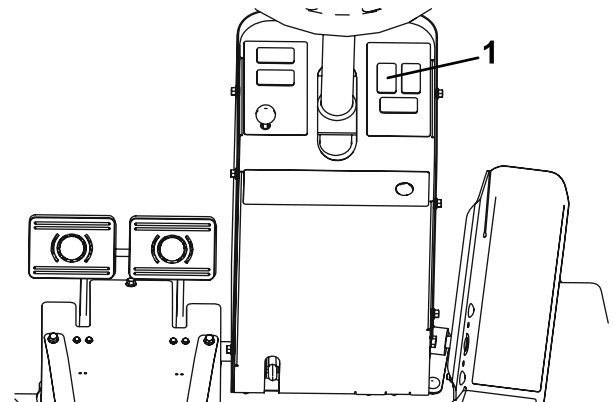

Figure 2
2. From the under side of the steering tower dash panel, press the plug out of the hole shown in Figure 2.